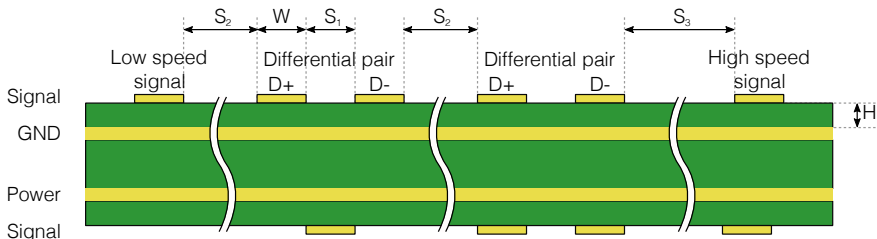

Fig. 18: Spacings of a low speed signal, two differential pairs and a high speed signal
If you are using the USB PHY, then you should route the differential pair marked D+ and D- carefully in order to ensure signal integrity. The D+ and D- lines are the positive and negative data polarities of a high-speed signal respectively. Their high-speed differential nature implies that they must be coupled and properly isolated. The board design must ensure that the board traces for D+ and D- are tightly matched. In addition, the differential impedance of D+ and D- must meet its specifications. Fig. 18 and the table below shows guidelines on how to space and stack the board when routing differential pairs.
- ▶ High-speed clock and periodic signal traces that run parallel should be at least a distance $S3$ away from D+/D- (see Fig. 18 and the table above).
- ▶ Low-speed and non-periodic signal traces that run parallel should be at least S_2 away from D+/D- (see Fig. 18 and the table above).